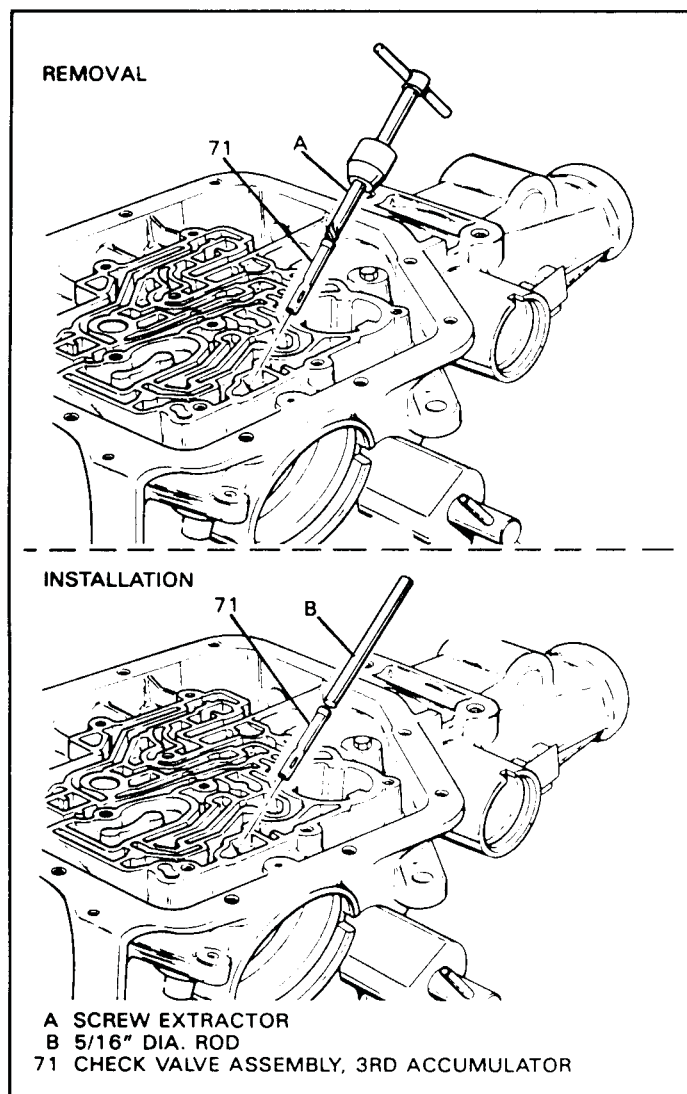

Figure 59
1. Remove the 3rd accumulator ball capsule Asm, using a #4 easy out as shown in Figure 59.
3. Install new 3rd accumulator ball capsule using a 3/8" diameter steel rod, as shown in Figure 59.